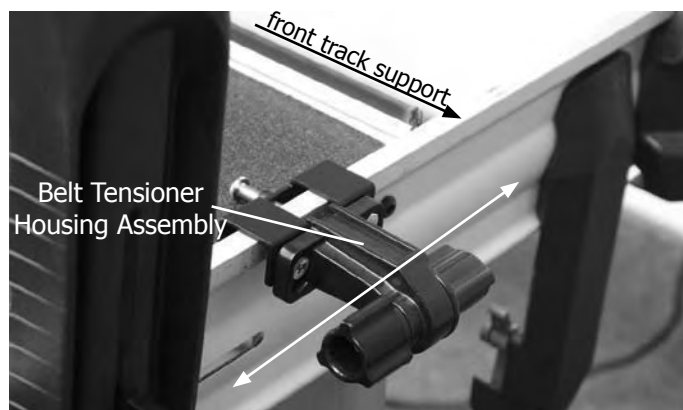

Fig. 7-C
**7-1.** Slide the Belt Clamp Assembly (assembled in Step 4) over the Left or Right Frame Side, toward the front track support. Finger tighten the M6 x 25mm Socket Button Head Cap Screw. You will adjust this later, after your carriage is on the frame. (See Fig. 7-A and 7-B).